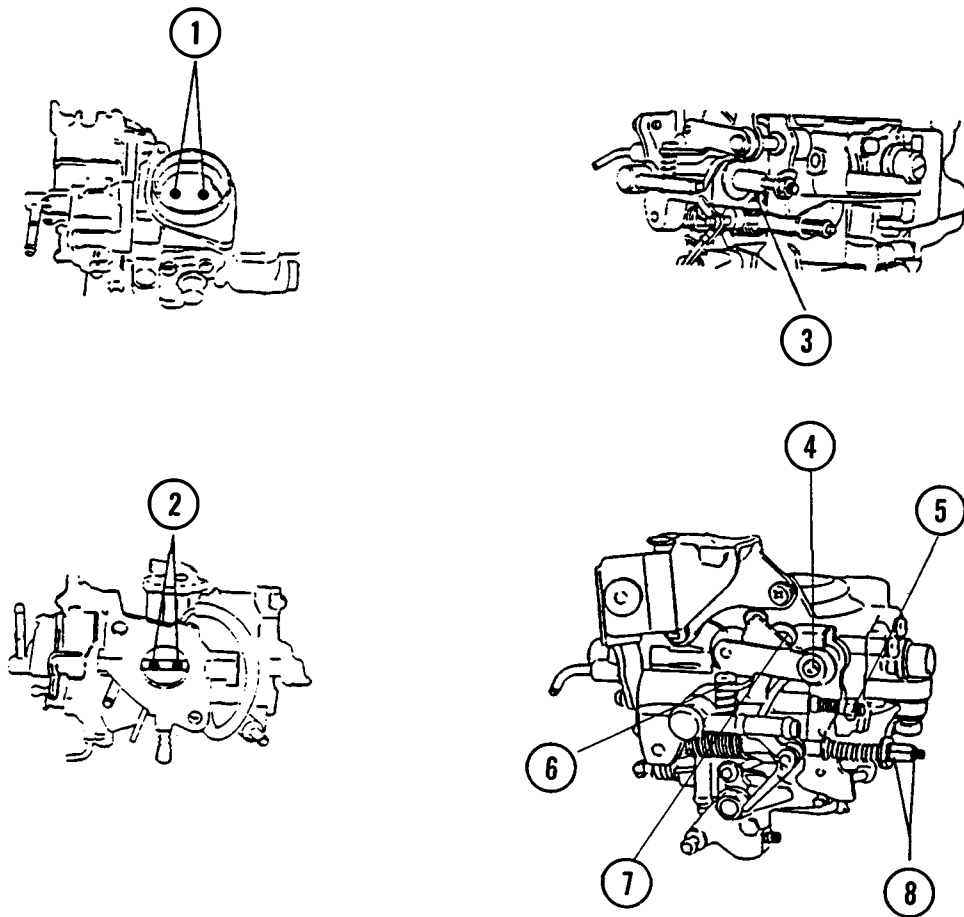

Figure 9.
- Be certain not to disassemble or adjust the parts shown in Figure 9. Carburetor performance will be adversely affected.